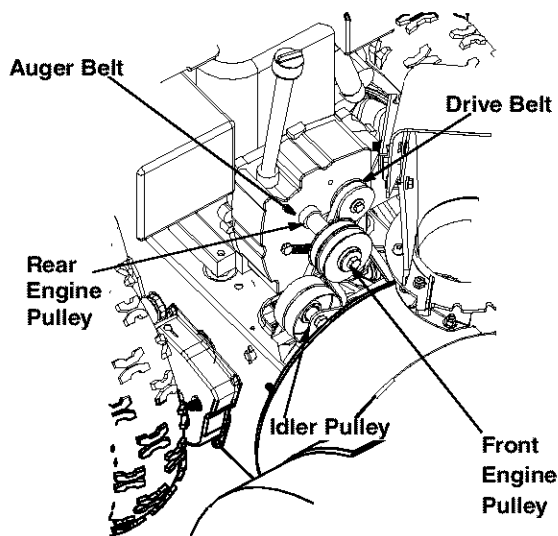

Figure 31
- Remove the two belts from the two engine pulleys. For location of the pulleys, see Figure 31.
- Pull the idler pulley away from the drive belt and remove the belt from the engine pulley. You will find the idler pulley in front of the engine and under the belt cover that you removed earlier. See Figure 31.